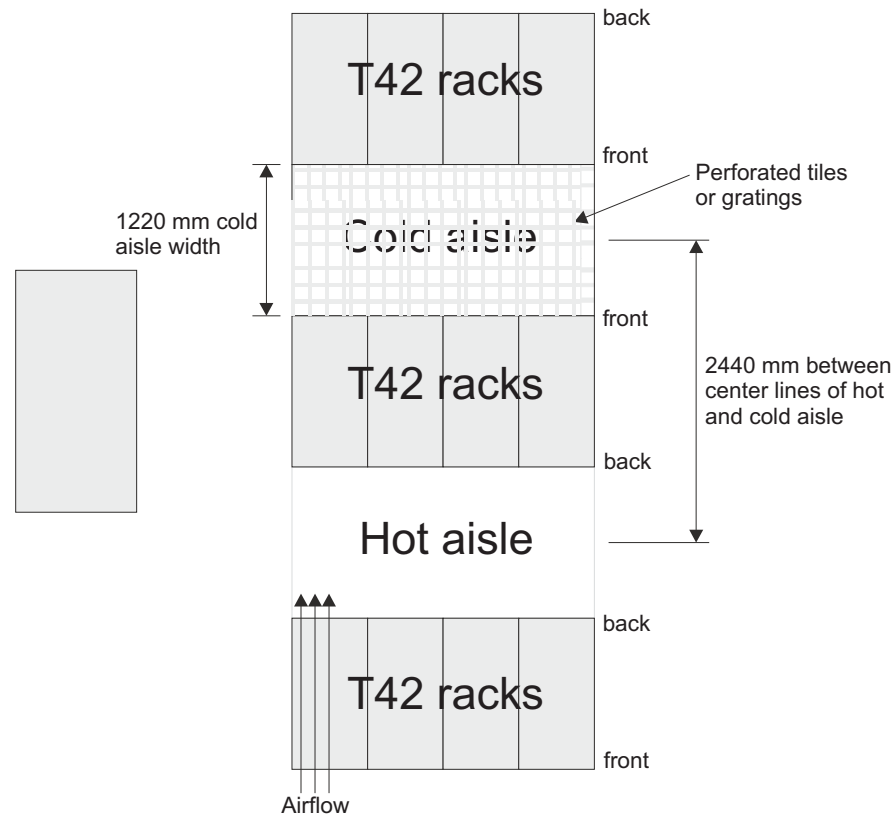

Figure 8. Example of cold aisle/hot aisle rack configuration
- Air enters at the front of the rack and leaves at the back. To prevent the air that is leaving the rack from entering the intake of another piece of equipment, you must position the racks in alternate rows, back-to-back and front-to-front. This arrangement is known as *cold aisle and hot aisle* and is shown in Figure 8.